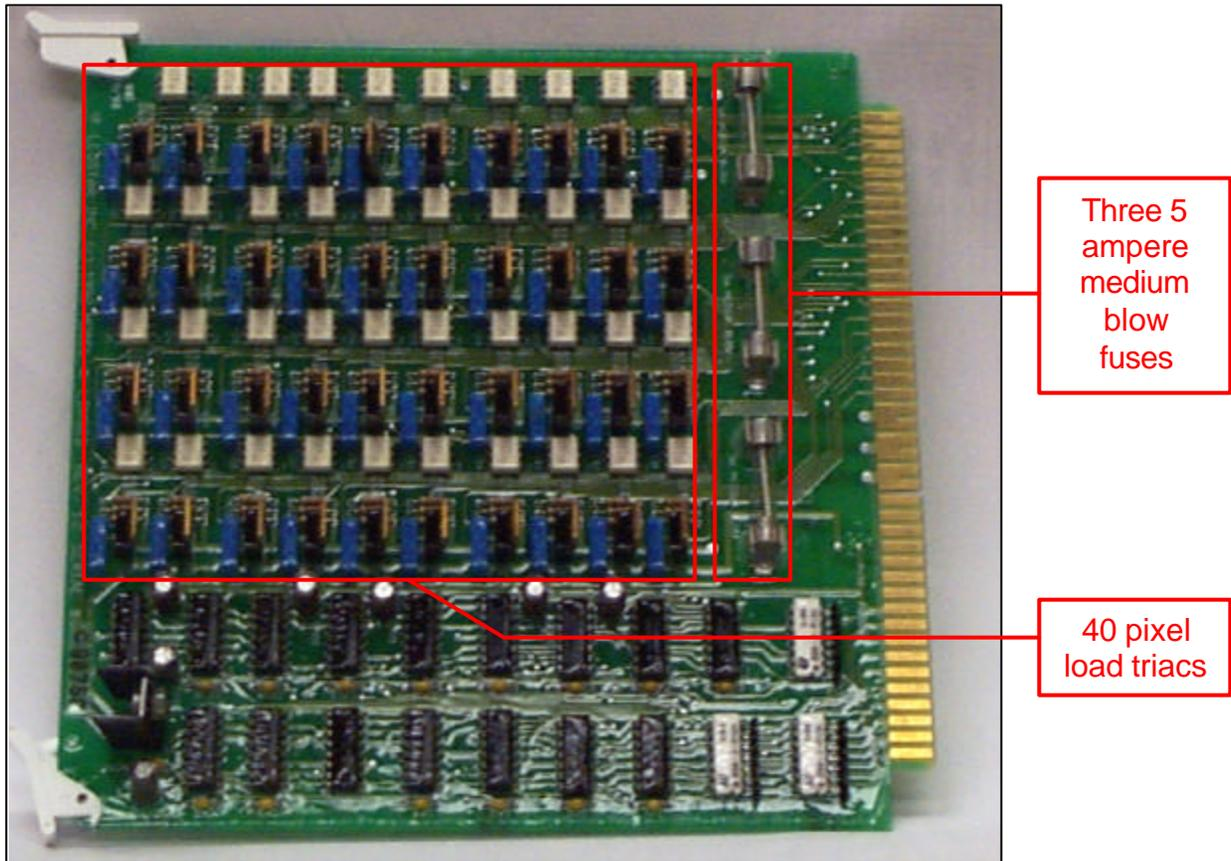

Fig. 38: Component Side of PDM Card.
- 2) Visually inspect PMM construction and materials used. Verify the following conditions: (See figures 38 – 45)